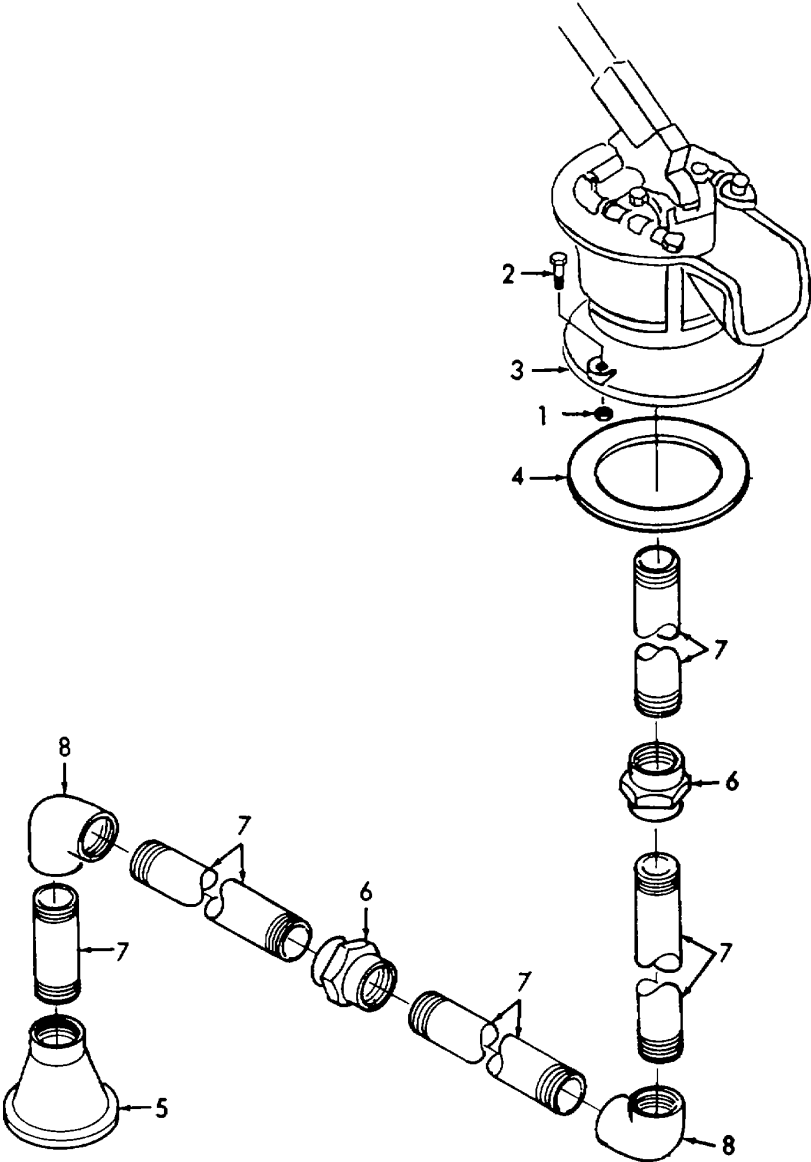

Figure 3-7. Bilge Pump and Piping, Removal/Installation.
- a. **Removal.** (Refer to figure 3-7).
- (1) Remove two nuts (1) and two bolts (2) and separate bilge pump (3) from the piping. Remove gasket (4) from the pump flange. Discard gasket (4).
- (2) Remove foot valve (5) from the opposite end of the piping.
- (3) Remove remaining piping by disconnecting two pipe unions (6) and separate the five pipes (7) and two elbows (8).
- (1) Refer to figure 3-7 and assemble the two elbows (8), five pipes (7), and two unions (6).
- (2) Install the foot valve (5) on the lower end of the pipe line.
- (3) Affix gasket (4) to the bilge pump mounting flange and secure the pump (3) to the pipe line with two bolts (2) and two nuts (1).